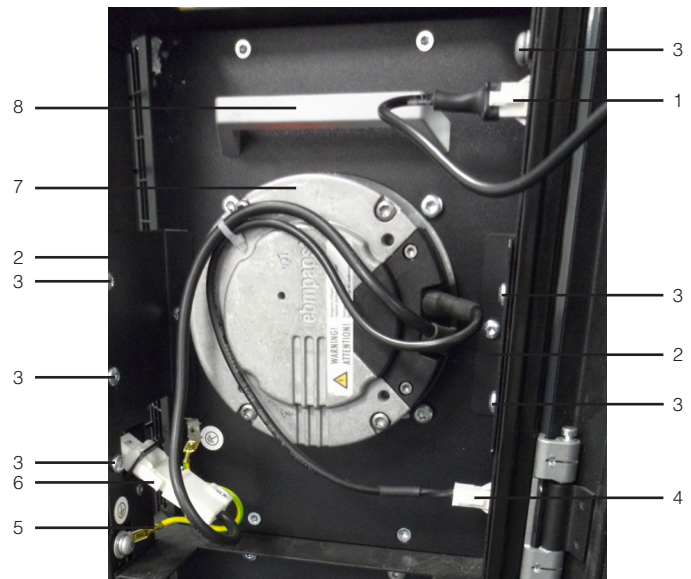

Fig. 30: Fan module in fan tray – LCP Inline and LCP Rack version
- Should you wish to exchange fan 2 and if the optional graphics display is installed, please first disconnect connector X33 of the connection cable (Fig. 30, item 1).
- Release the two fan connectors DC and AC on the left and right (Fig. 30, items 4 and 6).
- Disconnect the earth connection on the fan (Fig. 30, item 5).
- Loosen the three screws (Fig. 30, item 3) on the fan mounting brackets on both the left and right.
- Remove the two mounting brackets (Fig. 30, item 2).